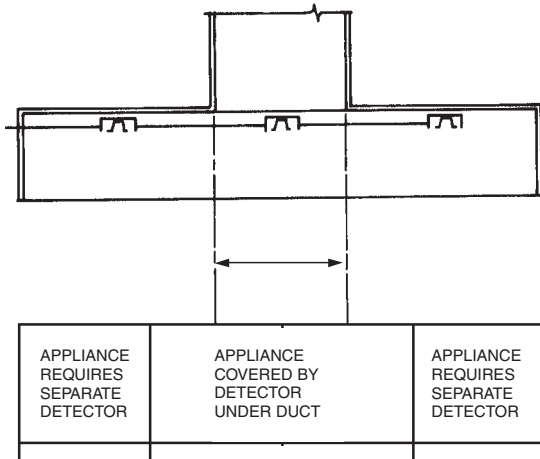

Figure 3-24. Proper Detector Placement.
► If the cooking appliance is located under an exhaust duct where a detector has been mounted, it is normally not necessary to utilize another detector for that cooking appliance, provided the detector is not more than 12 in. (30 cm) into the duct and the appliance has no larger cooking surface than 48 in. x 48 in. (121.9 cm x 129.1 cm). See **Figure 3-24**.